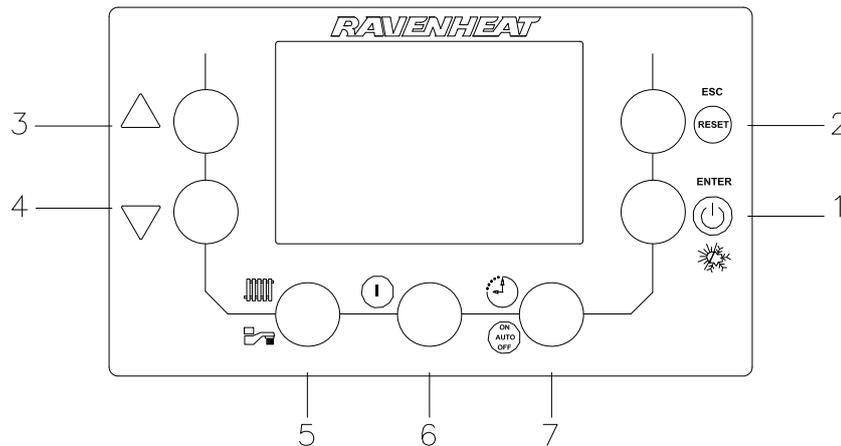

Fig. 1
In the event of an error, the appliance will show a sequence code displayed on the digital display of the control panel (fig. 1). By pressing the "RESET" button it is possible to relight the boiler (see page 52 and 53 for list of error codes).
Your boiler is equipped with a large LCD display that indicates the appliance operating status (fig. 1).
It is possible to show the boiler value. Press INFO button (item 6 fig. 1) to show the boiler values. Use the arrow up and the arrow down buttons, (item 3 and 4 fig. 1) to show the following info:
1. Press and hold for 5 seconds the TIMER MODE button (item 7 fig. 1). The hour value will flash.
2. Press the up and down arrows buttons (item 3 and 4 fig. 1) to select the current hour (24h). Then press the ENTER button (item 1 fig. 1) to confirm and the display show the minutes value will flash.
3. Press the up and down arrows buttons (item 3 and 4 fig. 1) to select the current minutes and then press the ENTER button (item 1 fig. 1) to confirm and the display will flash the day value will flash.
4. Press the up and down arrows buttons (item 3 and 4 fig. 1) to select the current day (1=Mon, 2= Tue etc.) and then press the ENTER button to confirm. The time is now set, press ESC button (item 2 fig. 1) to esc time function.
1. Press and hold for 5 seconds the timer mode button (item 7 fig. 1).
2. Press and hold for 5 seconds the timer mode button (item 7 fig. 1) again for other 5 seconds.
3. Press the up and down arrows (item 3 and 4 fig. 1) to select the On1 time (first on time) and press the ENTER button (item 2 fig. 1).
5. Press the up and down arrows to set the Off 1 time (first off) and press ENTER button (item 2 fig. 1).
Once the times are set, press the ESC button (item 2 fig. 1) and this will return to the main screen.